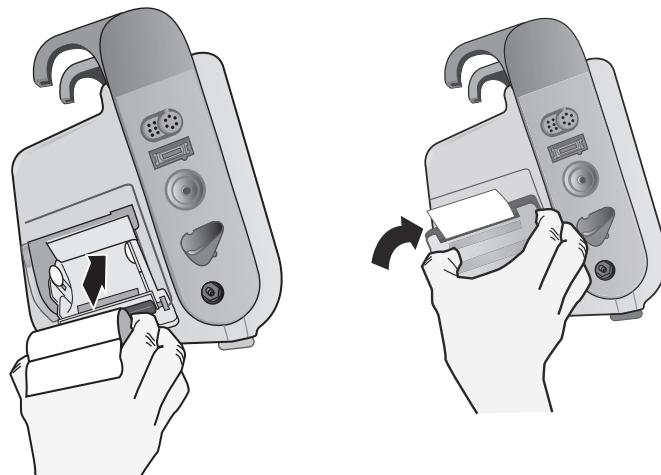

Figure 26-2. Inserting the Paper and Closing Printer Door
4. Place the paper back into the unit and close the cover (see Fig. 26-2).